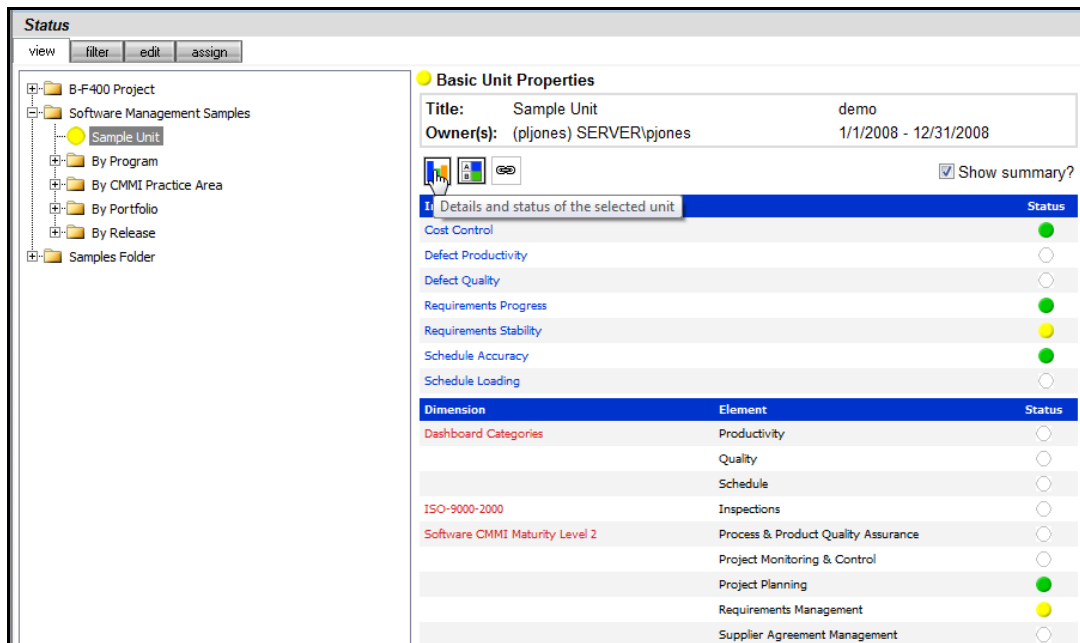

Figure 262
2. Ensure the desired Unit is selected (Figure 262)